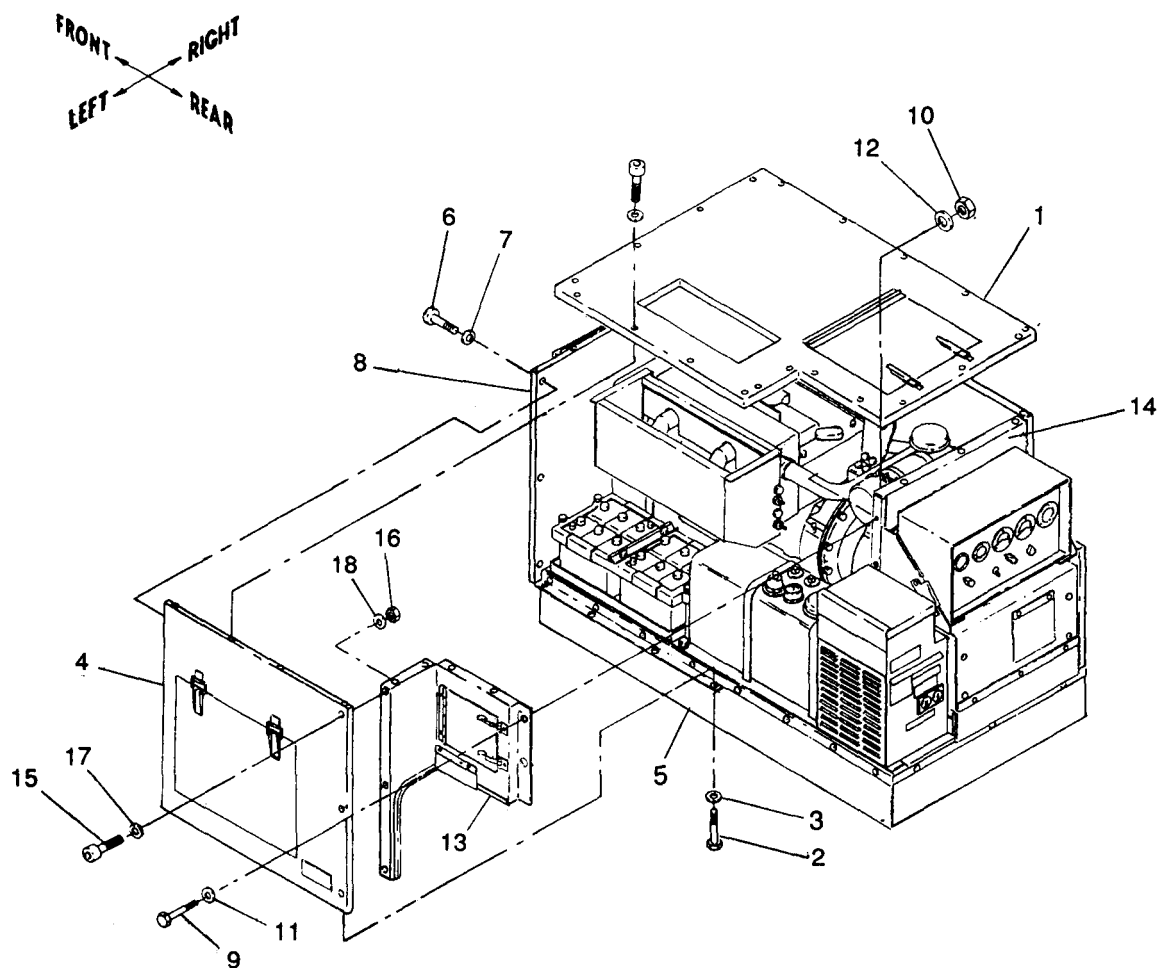

Figure 5-4. Left Panel Assembly and Side Closure Assembly, Removal and Installation
a. Removal. See figure 5-4. Remove left panel assembly with side closure assembly from top panel, front panel, left support and rear closure assemblies as follows:
(1) Remove top panel assembly (1) as described in paragraph 5-4.
(2) Remove four screws (2) and washers (3) securing left panel assembly (4) to left support assembly (5).
(3) Remove three screws (6) and washers (7) securing left panel assembly (4) to front panel assembly (8).
(4) Remove two screws (9) and locknuts (10), and four washers (11 and 12) securing side closure assembly (13) to rear closure assembly (14) and lift off left panel assembly (4) with side closure assembly (13) .
(5) Remove three screws (15) and locknuts (16), six washers (17 and 18) securing side closure assembly (13) left panel assembly (4).
b. Installation. See figure 5-4. Install left panel with side closure assembly to top panel, front panel, left support and rear closure assemblies as follows:
- (1) Install three screws (15) and locknuts (16) and six washers (17 and 18) securing side closure assembly (13) to left panel assembly (4).
- (2) Torque screws (15) to 16 $\pm$ 2 ft-lbs dry.
- (3) Position left panel assembly (4) with side closure assembly (13) on generator and install two screws (9) and locknuts (10) and four washers (11 and 12) securing side closure assembly (13) to rear closure assembly (14).
- (4) Torque screws (9) to 16 $\pm$ 2 in.-lbs dry.
- (5) Install three screws (6) and washers (7) securing left panel assembly (4) to front panel assembly (8).
- (6) Torque screws (6) to 18 $\pm$ 2 in.-lbs dry.
- (7) Install four screws (2) and washers (3) securing left panel assembly (4) to left support assembly (5).
- (8) Torque screws (2) to 18 $\pm$ 2 in.-lbs dry.
- (9) Install top panel assembly (1) as described in paragraph 5-4.